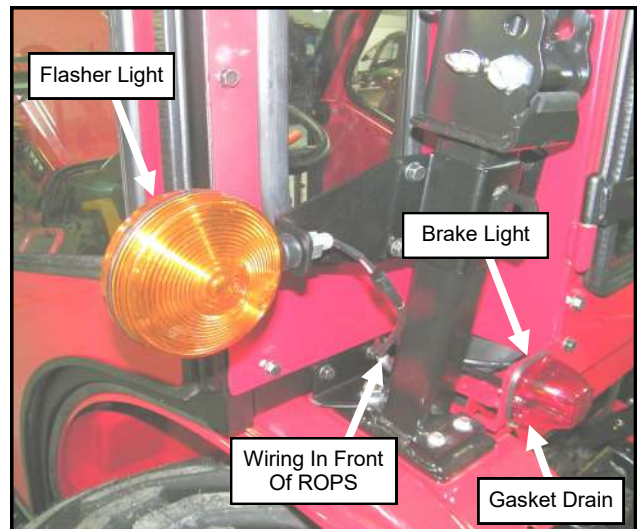

Fig. 23.1 (Mount Rear Lights)
- 23.1 Mount the left flasher to the new location on the ROPS clamp, and mount the left brake light to the new location on the lower cross panel. Make sure the drain hole on the brake light gasket is on the bottom. See Figure 23.1.